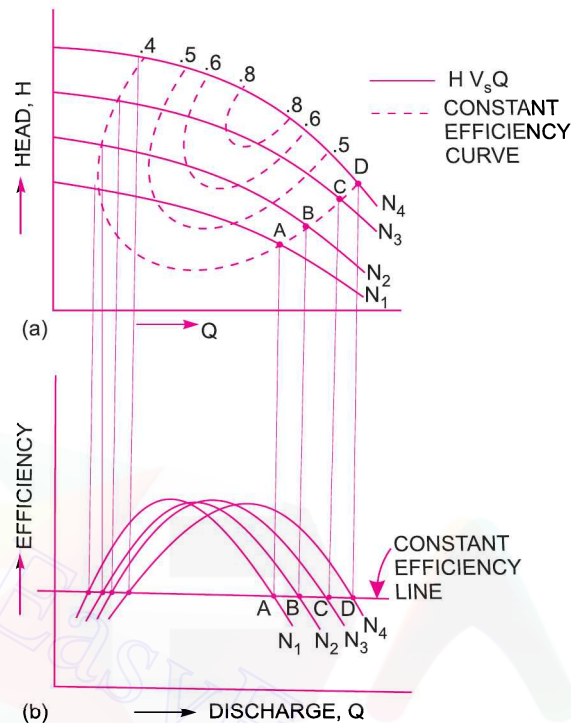

Fig. 19.16 Constant efficiency curves of a pump.
**19.10.3 Constant Efficiency Curves.** For obtaining constant efficiency curves for a pump, the head *versus* discharge curves and efficiency *versus* discharge curves for different speed are used. Fig. 19.16 (a) shows the head *versus* discharge curves for different speeds. The efficiency *versus* discharge curves for the different speeds are as shown in Fig. 19.16 (b). By combining these curves ( $H \sim Q$  curves and  $\eta \sim Q$  curves), constant efficiency curves are obtained as shown in Fig. 19.16 (a).